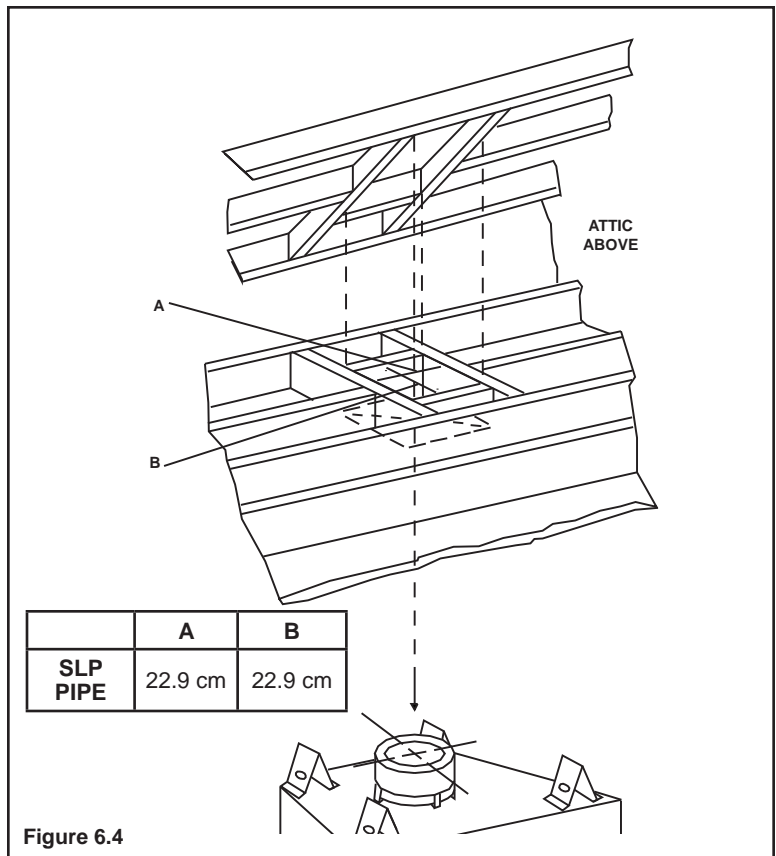

Figure 6.4
- Frame an opening 22.9 cm by 22.9 cm whenever the system penetrates a ceiling/floor (see Figure 6.4). A steeply slanted roof may require an enlarged opening size in order to maintain proper flue pipe clearances.